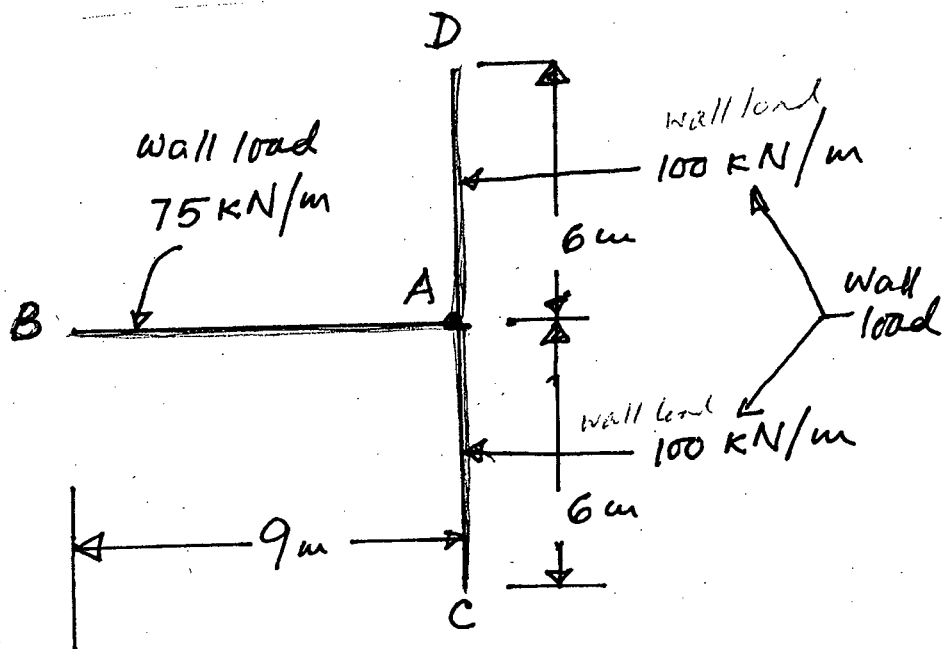

Fig 6. T shaped Wall footing for Question No. 12(c)
(c) Two load bearing walls (BA and CD) meet at a point 'A' as shown in Fig. 6. Assume their loads to act as line loads. Determine the vertical stress at a point 3 m below the point A. (15)